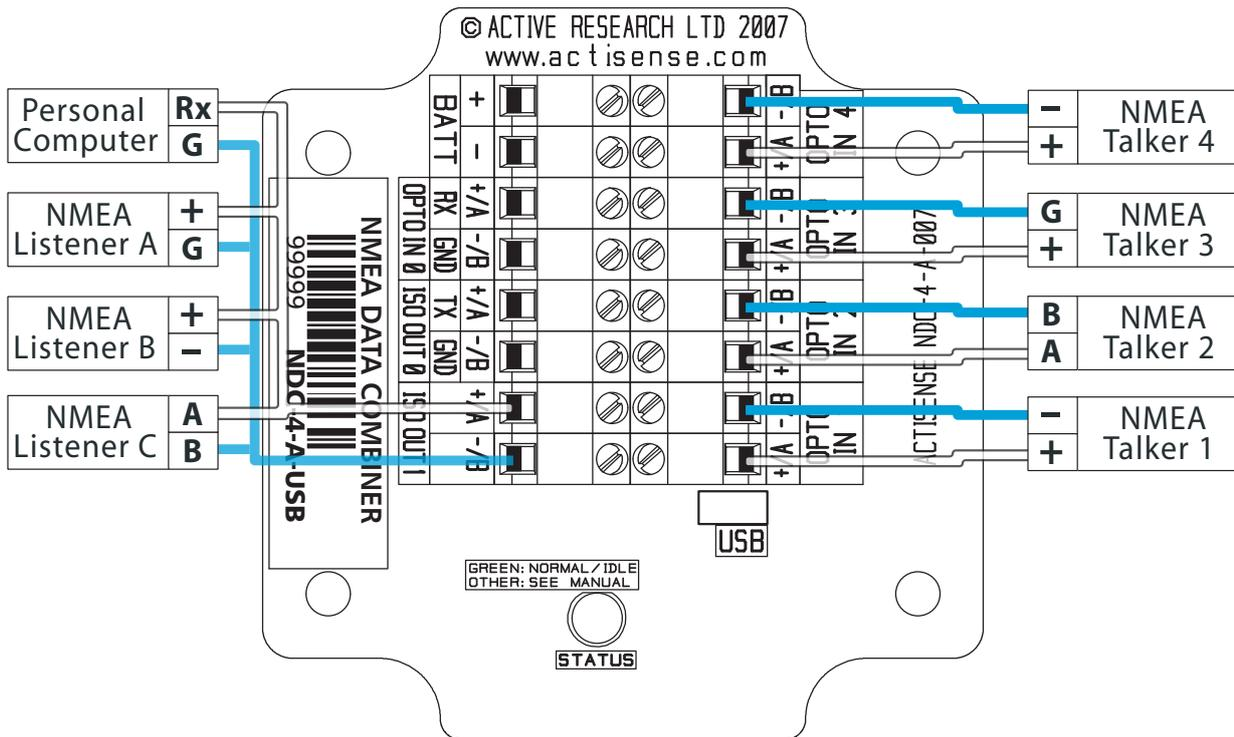

Figure 2 – NMEA 0183 connections
**NMEA Talker devices 1, 2 and 4:** These devices conform in full to the NMEA 0183 standard. Devices 1 and 4 share the same connection ID’s as the **Actisense** NDC, so connection is a simple matter of matching the ID’s (refer to figure 2). Device 2 uses the RS485 convention connection ID’s. Simply connect ‘A’ to ‘+/A’ and ‘B’ to ‘-/B’ (refer to figure 2).